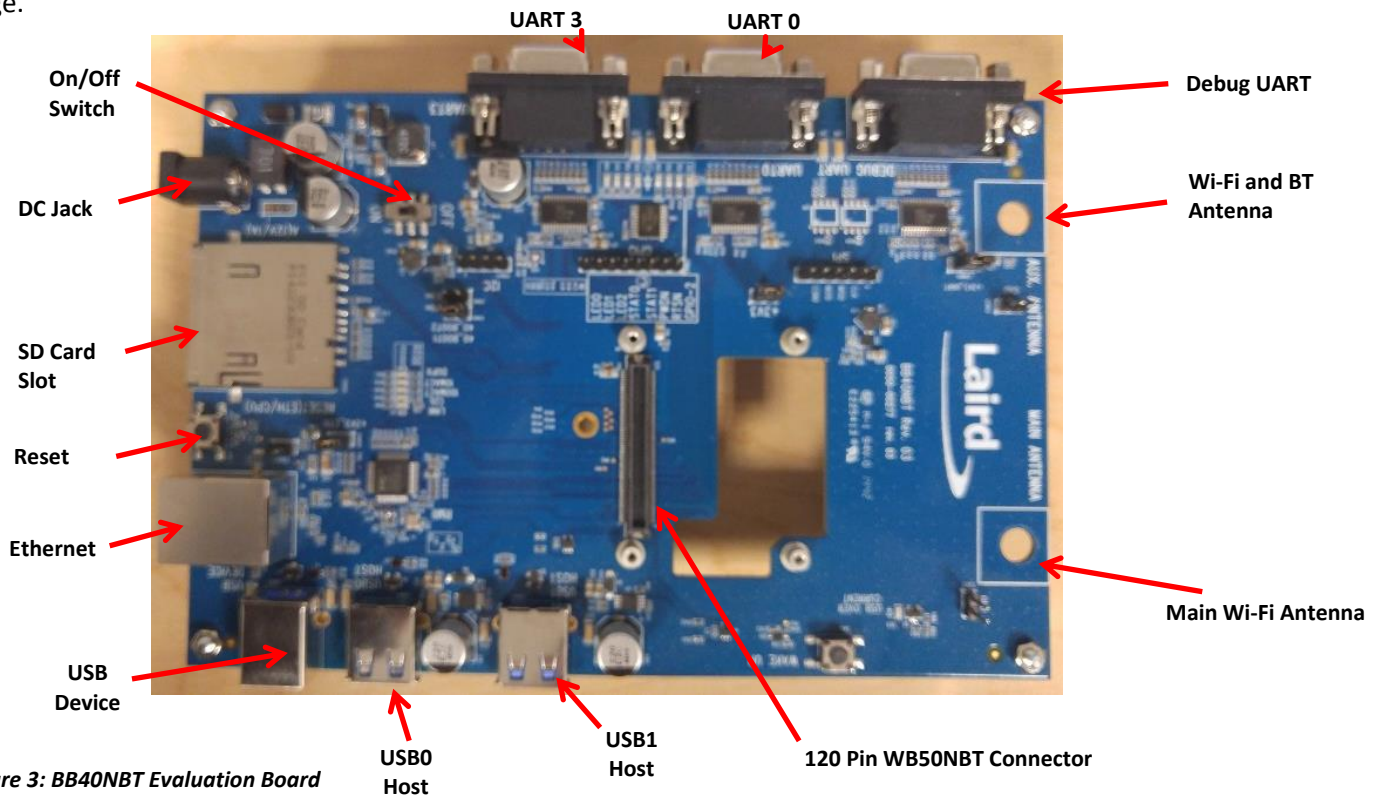

Figure 3: BB40NBT Evaluation Board
The Laird WB50NBT is a flexible communications module providing a variety of interfaces which are made available on the BB40NBT shown in Figure 3. Additional information regarding all interfaces, their use and configuration is available in the *WB50 Reference Guide*. This guide is accessible from the WB50NBT product page.
3. Connect the DB9 connector of your USB-to-RS232 cable to the port marked **Debug UART** shown in the BB40NBT overview diagram Figure 3.